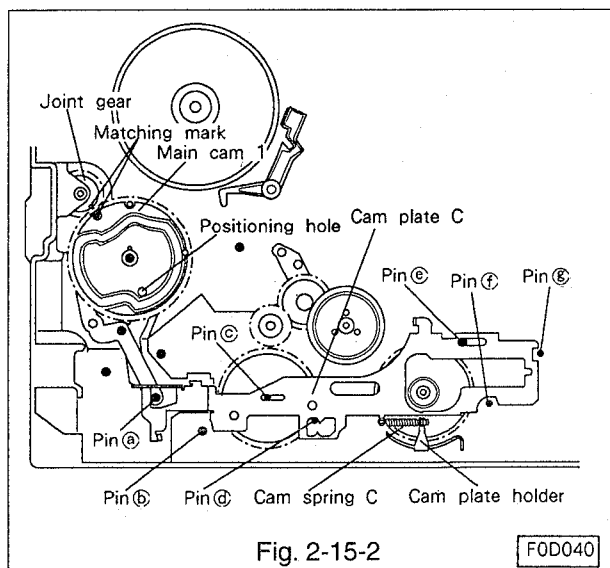

Fig. 2-15-2
- C. Take care not to move the lever RS and lever C, assemble the main cam 1 to the shaft by lining the matching mark of the joint gear with the positioning hole of main plate. Secure the main cam 1 with the grip ring. (Refer to Fig. 2-15-2.)
- D. Assemble the thrust washer to the pin (c) shown in Fig. 2-15-2, and install the cam plate C so that the corresponding positions of the plate match the pins (a ~ g).
- E. Fasten cam spring C to the cam plate C and the cam plate holder. (Refer to Fig. 2-15-2.)